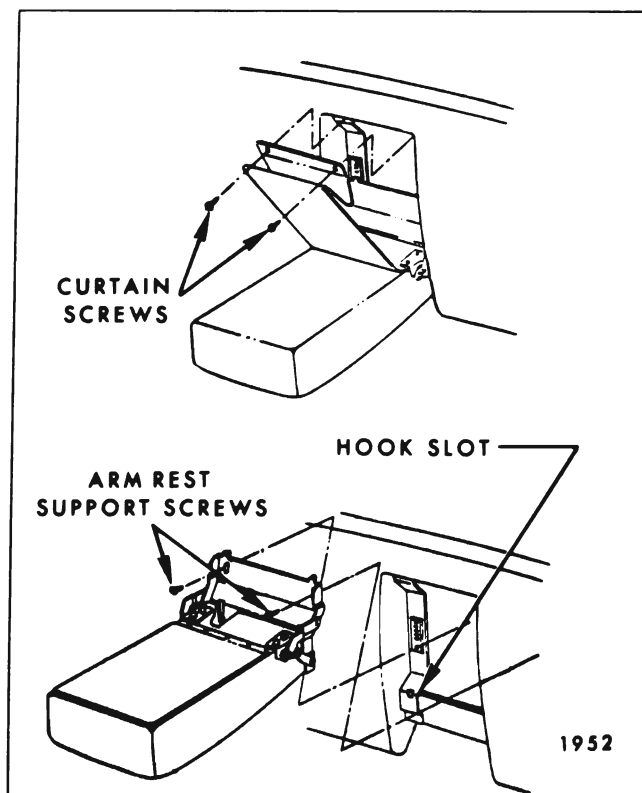

Fig. 15-22—Front Seat Center Arm Rest (Full Width Seat Back)
2. At top of arm rest curtain, remove two screws securing curtain to seat back frame (Fig. 15-22) and pull curtain forward to expose screws securing arm rest to support linkage (Fig. 15-22).
3. Remove arm rest-to-support linkage screws (Fig. 15-22) and remove arm rest and curtain from seat.
2. At top of arm rest curtain, remove two screws securing curtain to seat back frame (Fig. 15-22).
3. Remove two screws securing arm rest to supports on seat back (Fig. 15-22); then, carefully lift arm rest and linkage upward to disengage hooks of arm rest from slots in supports and remove assembly from seat.